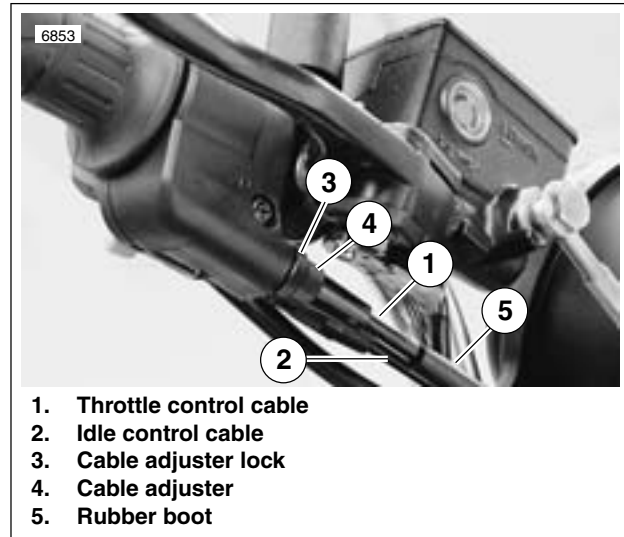

Figure 1-39. Throttle Control Cables
1. See Figure 1-39. Slide rubber boot (5) off cable adjuster (4).
2. Loosen cable adjuster lock (3) on each adjuster.
3. Turn adjusters (4) in direction which will shorten cable housings to minimum length.
5. Turn adjuster (4) on throttle control cable (1) until throttle cam stop touches carburetor stop plate. Tighten adjuster lock on throttle control cable (1) adjuster (4); release throttle control grip.
6. Turn handlebars fully to right. Turn adjuster (4) on idle control cable (2) until end of cable housing just touches the carburetor cable guide.
7. Twist and release throttle control grip a few times. Carburetor throttle must return to idle position each time throttle grip is released. If this is not the case, turn adjuster (4) on idle control cable (2) (shortening cable housing) until throttle control functions properly.
8. Tighten adjuster lock (3) on idle control cable (2) adjuster (4). Recheck operation of throttle control (Step 7).
9. Slide rubber boot (5) over each cable adjuster (4). Recheck engine slow idle speed; adjust if required.